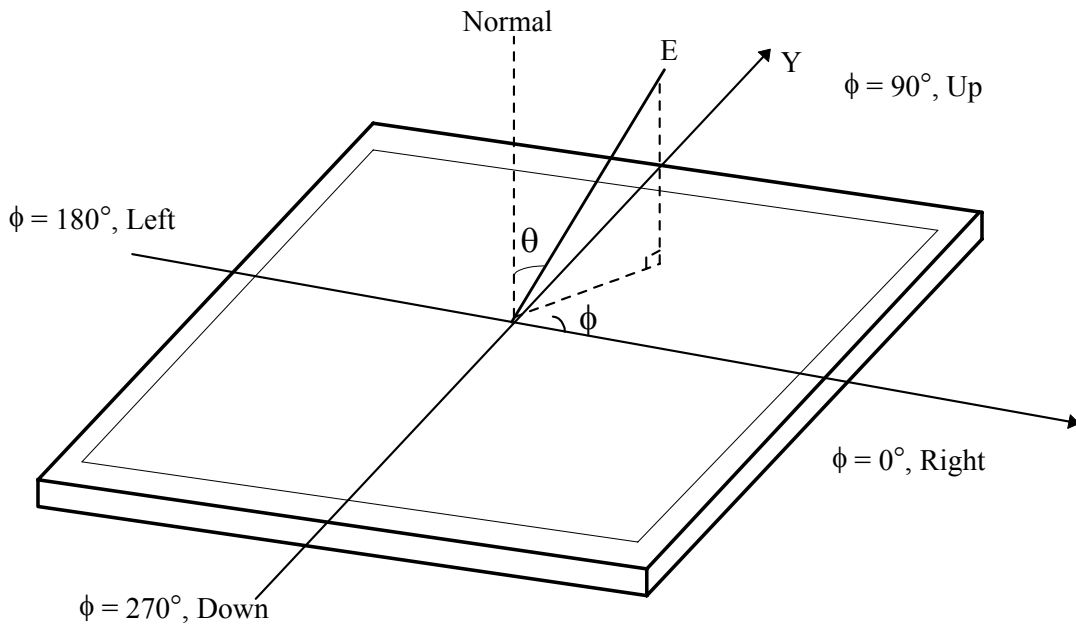

FIG. 4 Viewing Angle
5. Viewing angle is the angle at which the contrast ratio is greater than 10. The angles are determined for the horizontal or x axis and the vertical or y axis with respect to the z axis which is normal to the LCD module surface. For more information, see the FIG. 4.